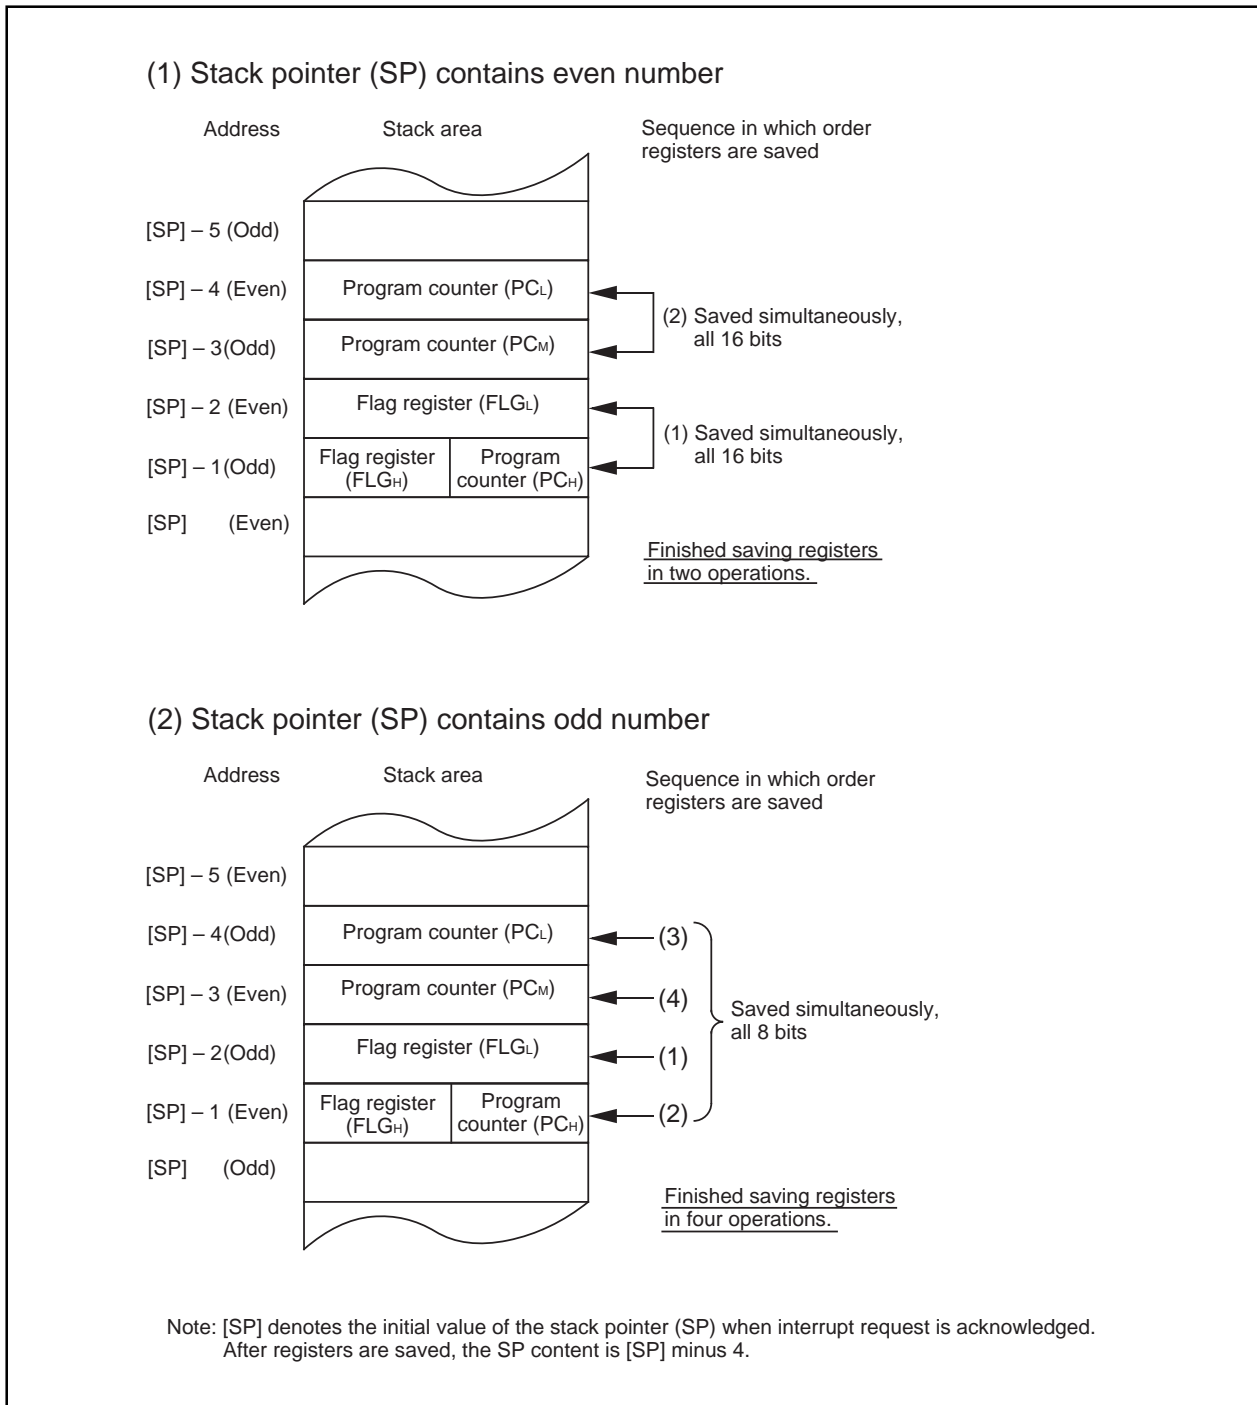

Figure 27. Operation of saving registers
The operation of saving registers carried out in the interrupt sequence is dependent on whether the content of the stack pointer, at the time of acceptance of an interrupt request, is even or odd- If the content of the stack pointer (Note) is even, the content of the flag register (FLG) and the content of the program counter (PC) are saved, 16 bits at a time. If odd, their contents are saved in two steps, 8 bits at a time. Figure 27 shows the operation of the saving registers.